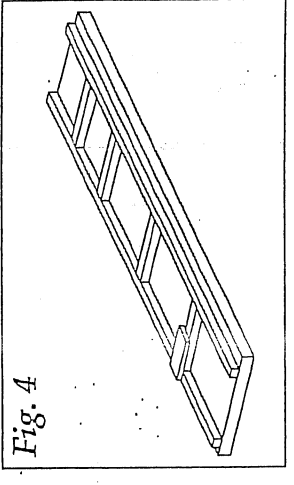

Fig. 4
4. Next, locate the 1/8 x 1 x 1-1/2" walnut supports (part 3). There are four of them in the kit. Refer to figure 4 and glue each of the supports into place on top of the 3/16" cross members. The walnut supports should be flush with the outside edge of the side rail and squarely on top of the cross member. Glue all supports to the left hand rail only.